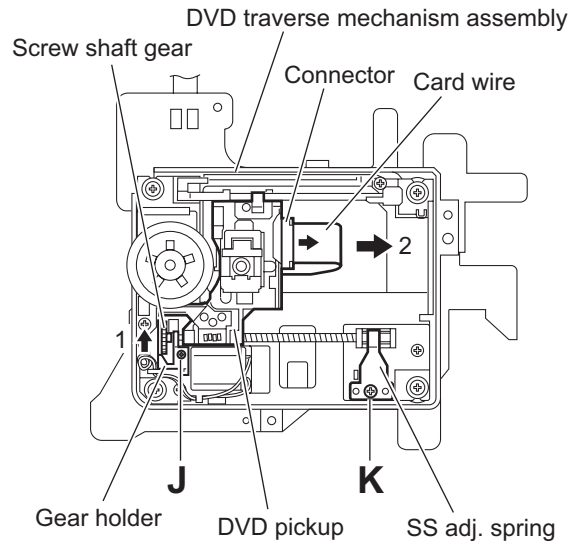

Fig.12
### 3.2.7 Removing the DVD pickup (See Figs.12 to 14)
- (1) From top side of the DVD traverse mechanism assembly, release the lock of the connector on the DVD pickup and disconnect the card wire in the direction of the arrow. (See Fig.12.)
- (2) Turn the screw shaft gear in the direction of the arrow 1 to move the DVD pickup in the direction of the arrow 2. (See Fig.12.)
- (3) Remove the screw **J** attaching the gear holder. (See Fig.12.)
- (4) Remove the screw **K** attaching the SS adj. spring. (See Fig.12.)
### 3.2.8 Attaching the DVD pickup (See Figs.12 to 14)
- (3) Attach the gear holder and SS adj. spring with the screws **J** and **K**. (See Fig.12.)
- (4) Turn the screw shaft gear to move the DVD pickup toward the left. (See Fig.12.)
- (5) Connect the card wire to the connector on the DVD pickup. (See Fig.12.)